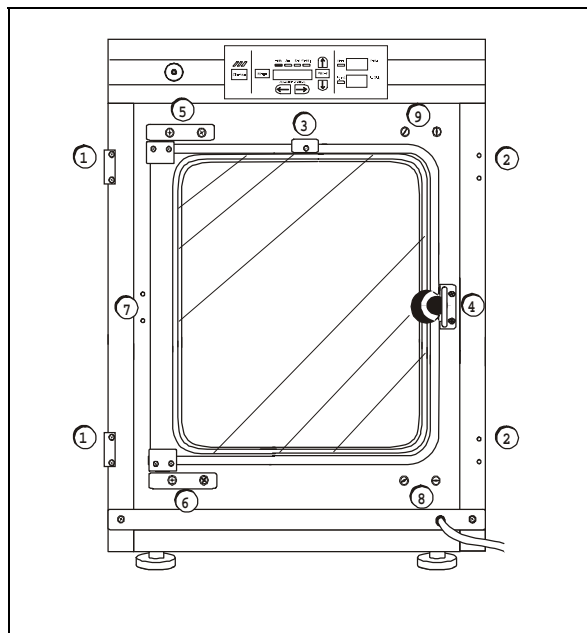

Figure 5-5
8. Remove the nylon screws along the right side of the cabinet. Remove the outer door hinges (Items 1 in Figure 5-5). Rotate them 180° and install them on the right side of the cabinet (Locations 2). Install the nylon screws in the holes vacated by the hinges.
17. Screw the threaded plugs into the holes vacated by the door hinge brackets at Locations 5 and 6 identified in Figure 5-5.